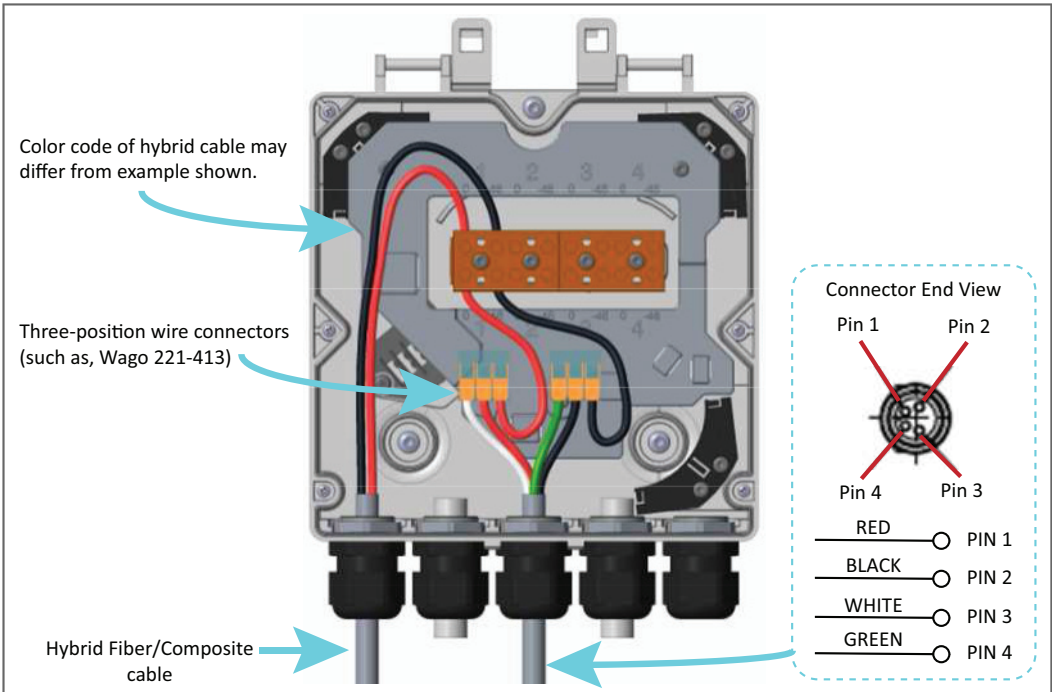

Figure 13. Wiring a Hybrid Fiber Splice Box for 2-Wire Power without LPS
- 1 Refer to Table 14 and Figure 13 to wire a Hybrid Fiber Splice Box for 2-Wire power without an Limited Power Source (LPS).